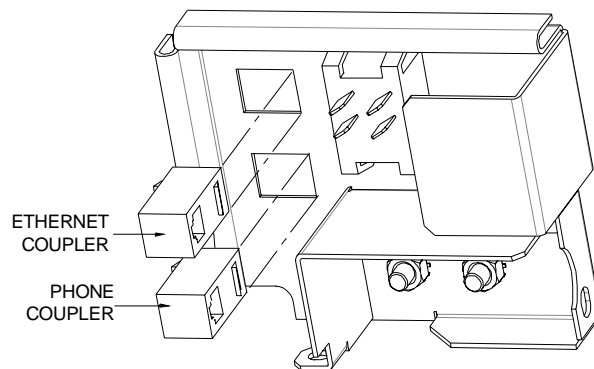

FIGURE 16 - MAXX SELECT/SLIM MAXX - COUPLER INSTALLATION
*If your game has horizontally oriented access holes on the power entry assembly, see MAXX B - Figure 16.*
**MAXX B:** Orient the supplied, snap-in Ethernet coupler and insert it into the upper access hole. Then orient the supplied, snap-in phone coupler and insert it into the lower access hole. See Figure 16.